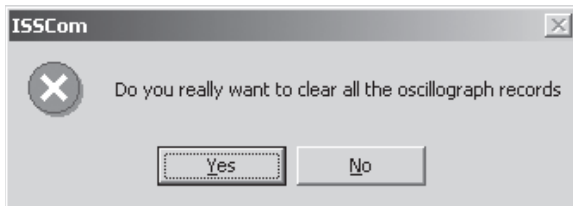

Figure 3-45 Clear Oscillograph Records Command Confirmation Screen
1. From the ISScom Main Screen menu select **System/Oscillograph/Clear**. ISScom will display the Clear Oscillograph Record confirmation screen (Figure 3-45).